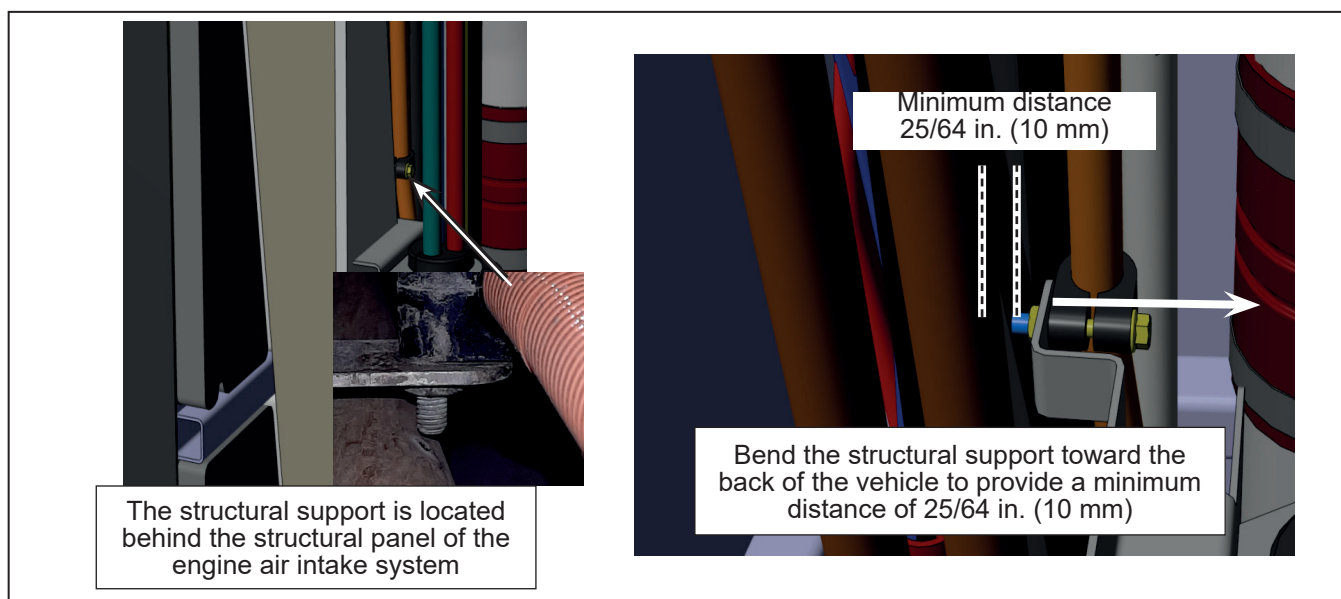

Figure 2 - Auxiliary Heater High Voltage Cable Anchor and Support
- 1.4. Locate the structural support for the high voltage cable. See Figure 2.
- 1.5. Bend the structural support manually in a way to obtain a minimum distance of 25/64 in. (10 mm) between the collar anchor bolt and the coolant pipe. See Figure 2.